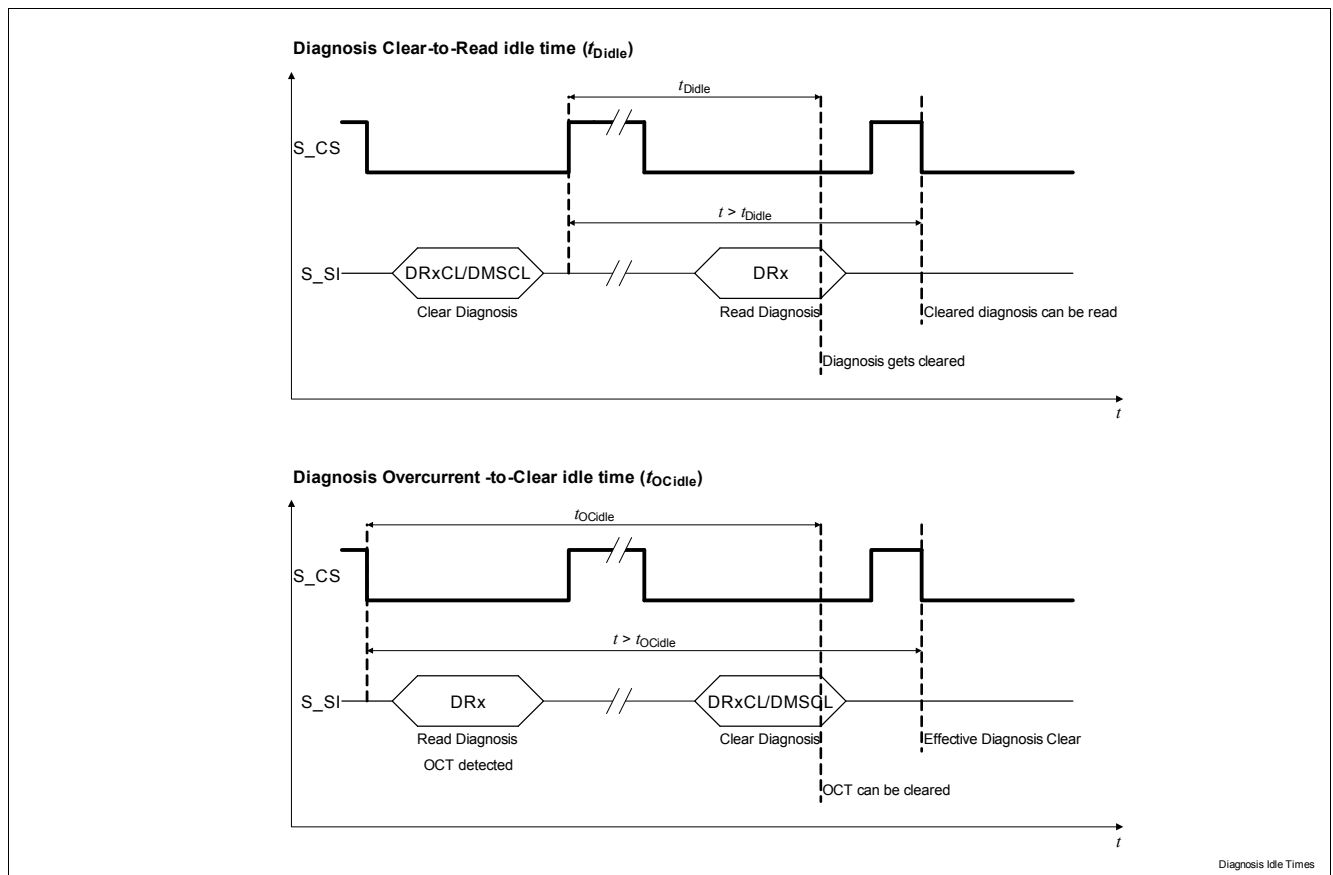

Figure 40 Diagnosis idle times
When issuing a Diagnosis Register Clear command (DRxCL or DMSCL), the idle time t_{DIdle} needs to elapse, from the CS low-to-high transition of the clear command, before the register content is effectively cleared (Figure 40); this time has to be taken into account when trying to read the Diagnosis register content after a clear, see Chapter 11.3 for t_{DIdle} definition.
After an overcurrent entry is stored in the diagnosis register (OC), the idle time t_{OCIdle} needs to elapse before a clear command can effectively clear the entry; if trying to clear the Diagnosis register after an OCT entry is read (Figure 40), this time has to be taken into account starting from the CS high-to-low transition of the previous read command, see Chapter 11.3 for t_{OCIdle} definition.